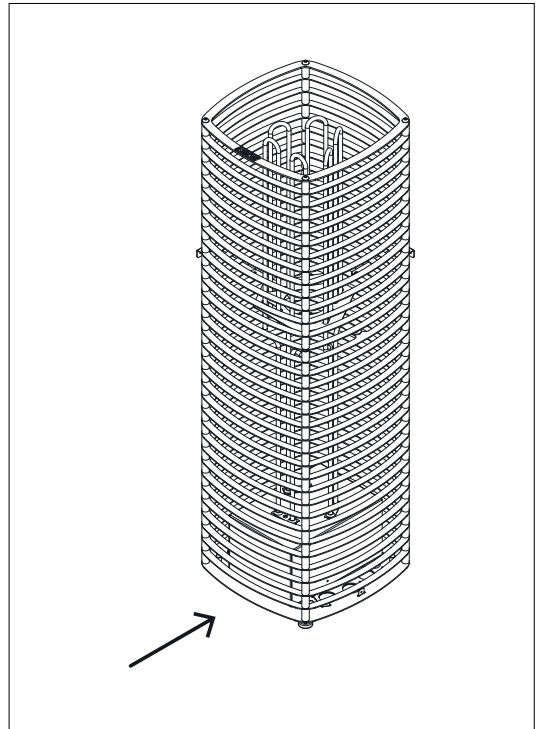

Figure 6.3-2: Location of the main switch
10. Ensure that the main switch (I/O) of the heater is in the O position. (Figure 6.3-2)